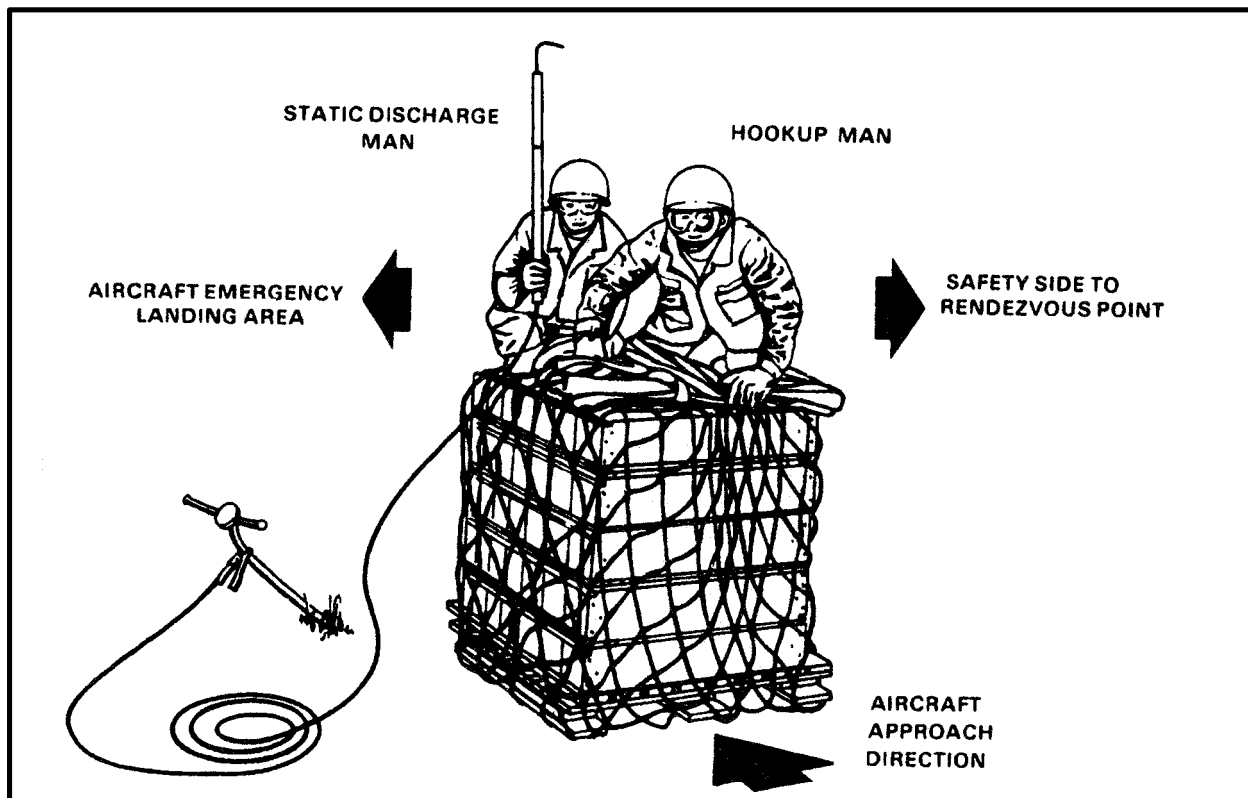

Figure 5-4. Hookup Team Position
**h. Hookup Team Procedures.** Hookup team personnel should kneel down, brace themselves, and hold securely to the load because of the rotor wash. The hookup man will have the apex fitting/web ring in his hands ready for hookup. The static wand person will hold the static discharge wand so that the red line or the **DO NOT HOLD** area is above the hookup team's helmets, as in Figure 5-4.